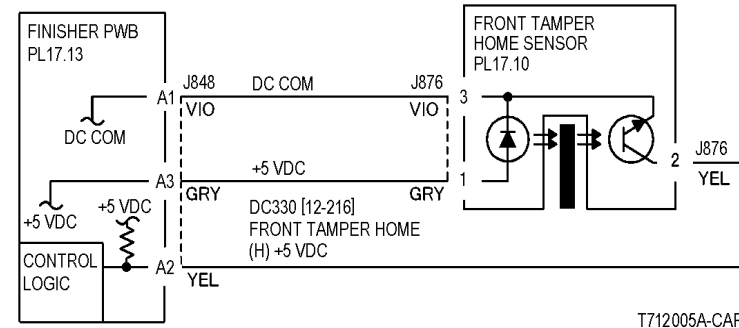
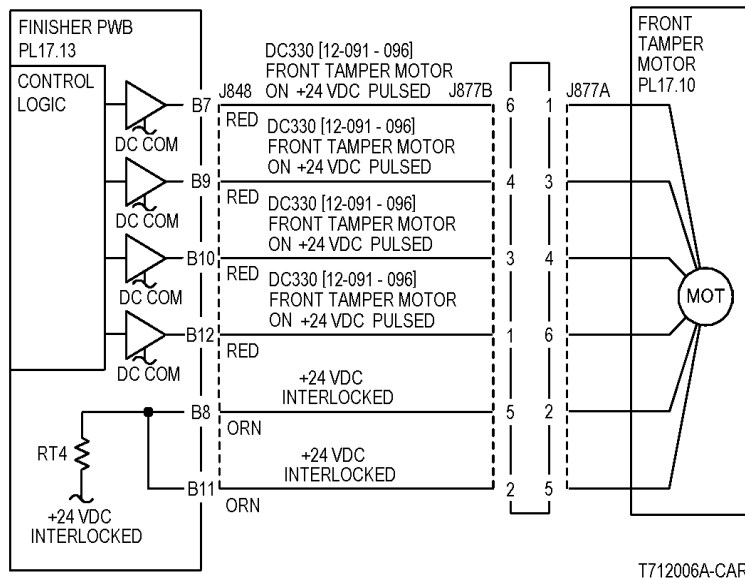

Figure 2 12-252 RAP Circuit Diagram - Front Tamper Home Sensor
Figure 3 12-252 RAP Circuit Diagram - Front Tamper Motor
Press **Stop**. Check the circuit of the Front Tamper Home Sensor (Figure 2). Refer to the **OF 99-2 RAP** for troubleshooting procedure.
- Ensure that the connectors shown in the circuit diagrams (Figure 2, Figure 3) are securely connected and that the wires are not damaged.